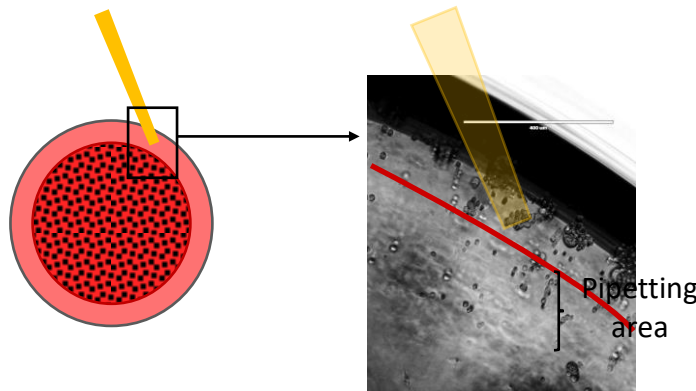

Figure 3: step3 - changing medium with BIOMIMESYS®
- Remove a part of the medium by keeping the tip on the side of the well (see figure 3). Do not worry if you touch the hydrosccaffold, it is robust enough to not break easily.